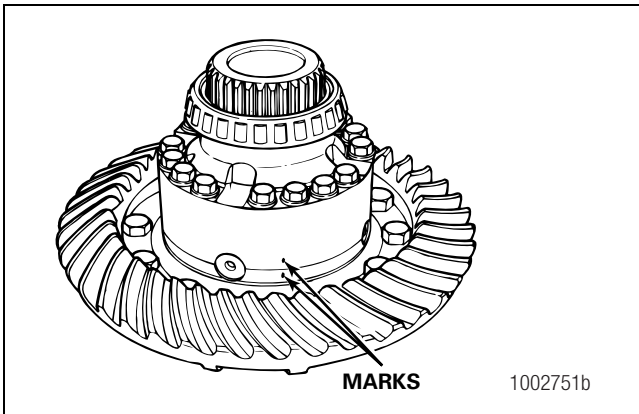

Figure 3.48
1. Use a punch and hammer to mark the case halves. The marks will help you correctly align the case halves during assembly. Figure 3.48.